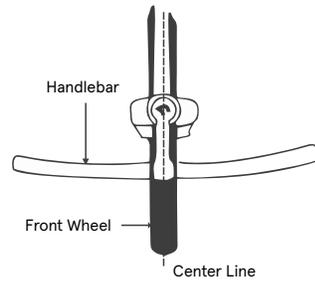

Fig. 13
2. Align the handlebar stem with the front wheel **(See Fig. 13)**. Securely tighten the stem bolt(s). Note: Some models require a 6mm hex key. (Tightening torque: 18N.m or 14foot lbs.torque).
4. Be sure that your handlebar and stem assembly is properly tightened before riding. The handlebar and stem should not rotate in the stem up or down or in the fork from left or right. **(Fig. 13)**